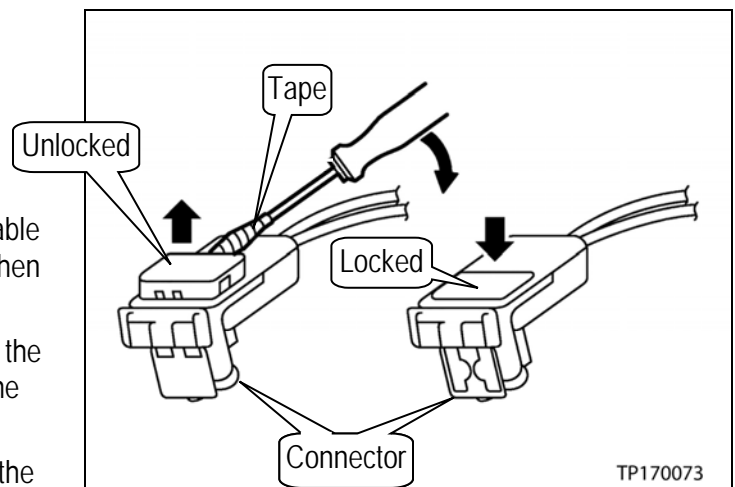

Figure 43
- When removing the driver knee air bag module electrical connector, insert a suitable tool wrapped with tape, lift the lock, and then remove the connector (see Figure 43).